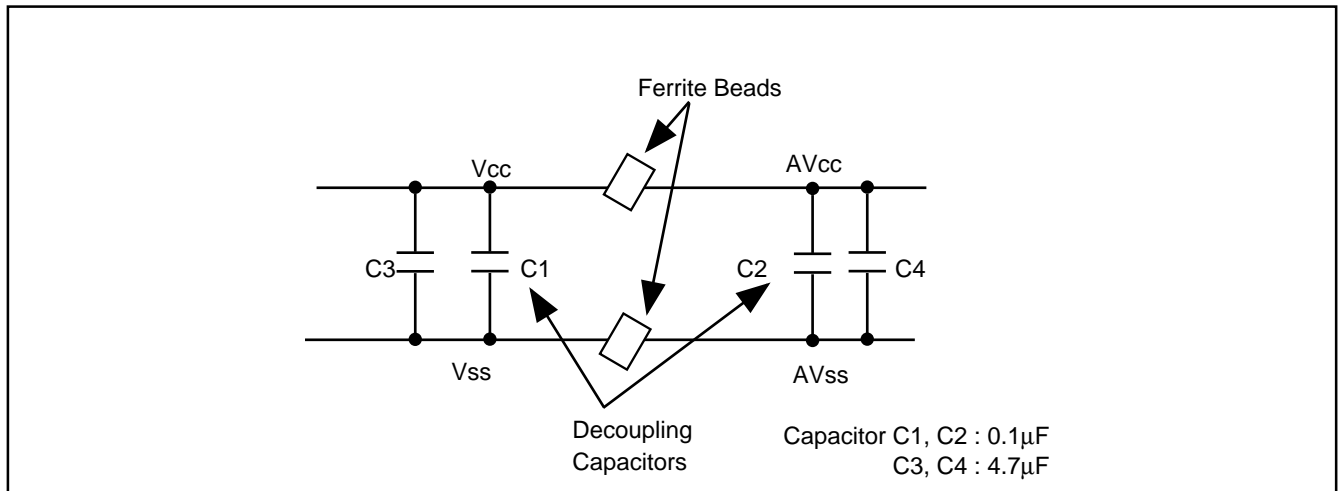

Fig.3.1.2 Example Connection of Insulated Connector
- Connect ferrite beads between the AVss and Vss pins or the AVcc and Vcc pins, as necessary. The connection is shown in Figure 3.1.2.